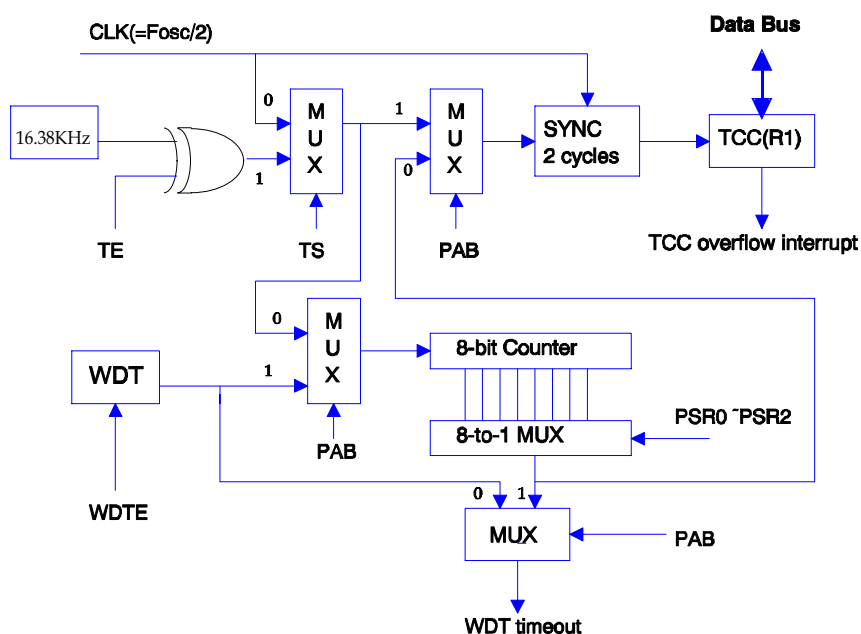

Fig. 6 Block diagram of TCC WDT
- Fig. 6 depicts the circuit diagram of TCC/WDT.